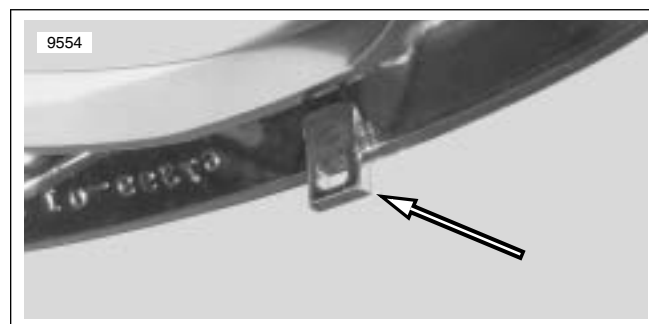

Figure 8-55. Bezel Hook
See Figure 8-55. Bezel hook holds bottom of bezel and top cover to lower handlebar cover and can be damaged if forced during removal or installation.
**See Figure 8-55. Bezel hook holds bottom of bezel and top cover to lower handlebar cover and can be damaged if forced during removal or installation.**